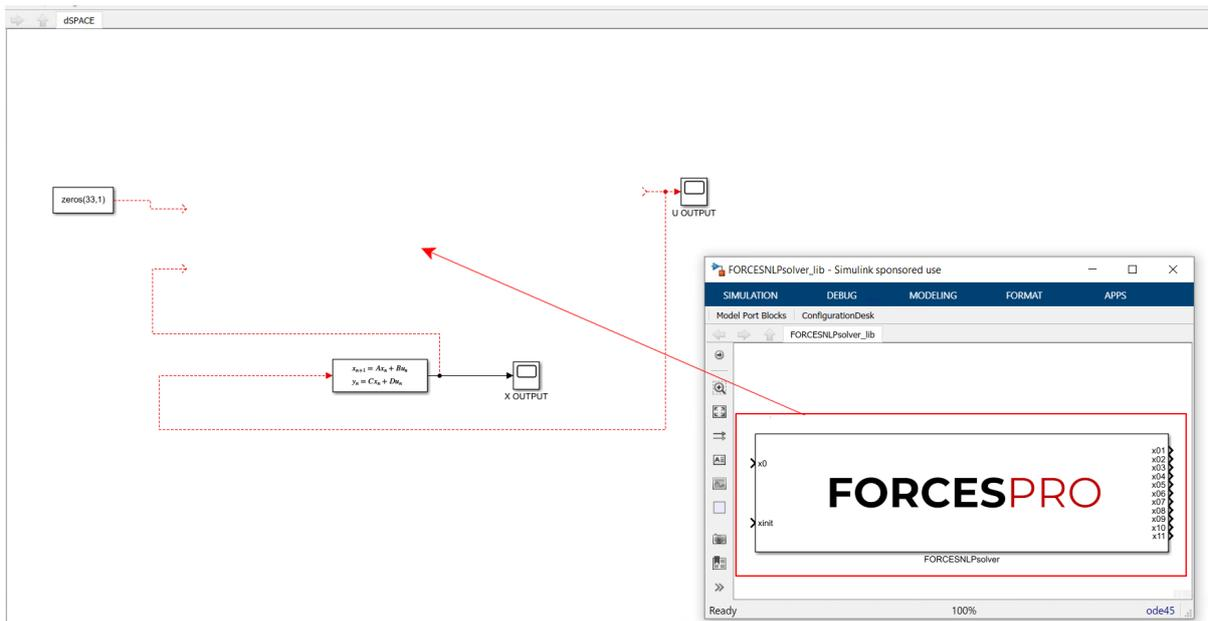

Figure 13.35: Open the generated Simulink solver model.
- 6) Open the FORCESNLPsolver_lib.mdl Simulink model file, contained in the interface folder of the FORCESNLPsolver folder created during code generation (see Figure 13.35).